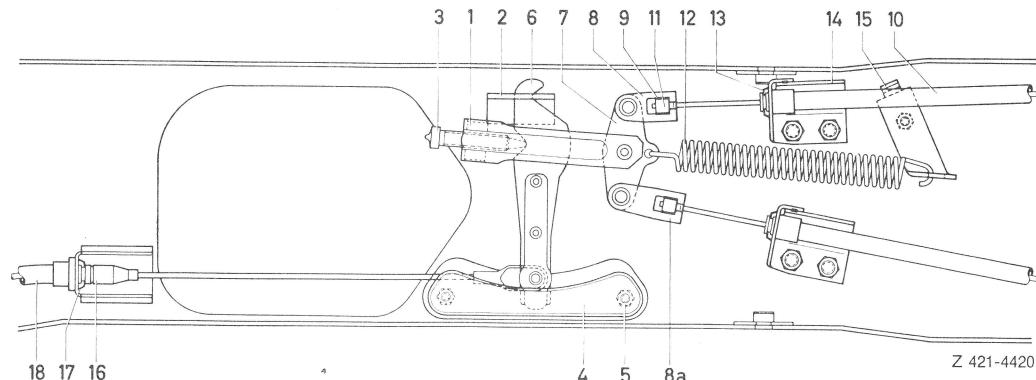

Fig. 5
8 Disconnect intermediate lever (6) on bearing of frame floor (2) and remove from adjusting bracket (1) (Fig. 5).
10 Pull holder (14), compensating lever (7) with cable control plates (8 and 8a) and intermediate lever (6) out of tunnel by means of brake cable controls (10) (Fig. 5).
11 Remove spring clamp and disconnect cable controls (10) from cable control plate (8 or 8a) and holder (14) (Fig. 5).
12 During re-installation, make sure that hose piece (9) on adapter (11) is not torn, so that a safe grip of brake cable control (10) in cable control plate (8 and 8a) is assured (Fig. 5).